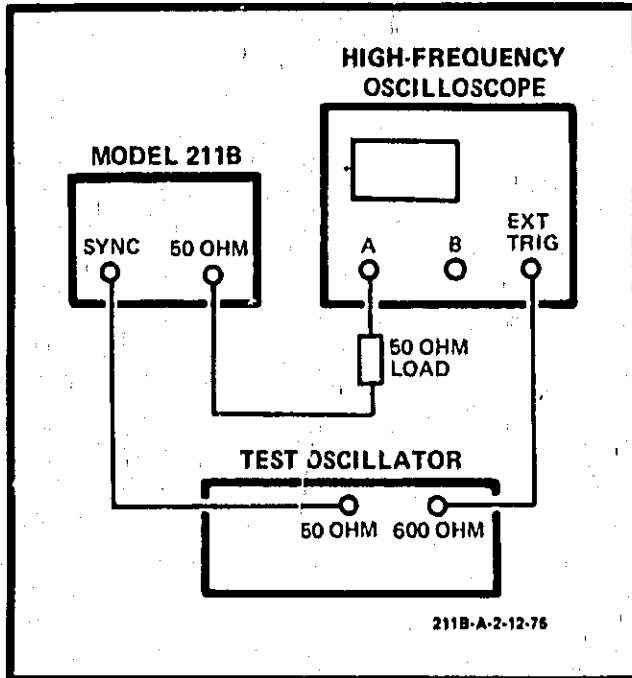

Figure 5-3. Synchronization Test Setup
b. Connect equipment as shown in figure 5-3.